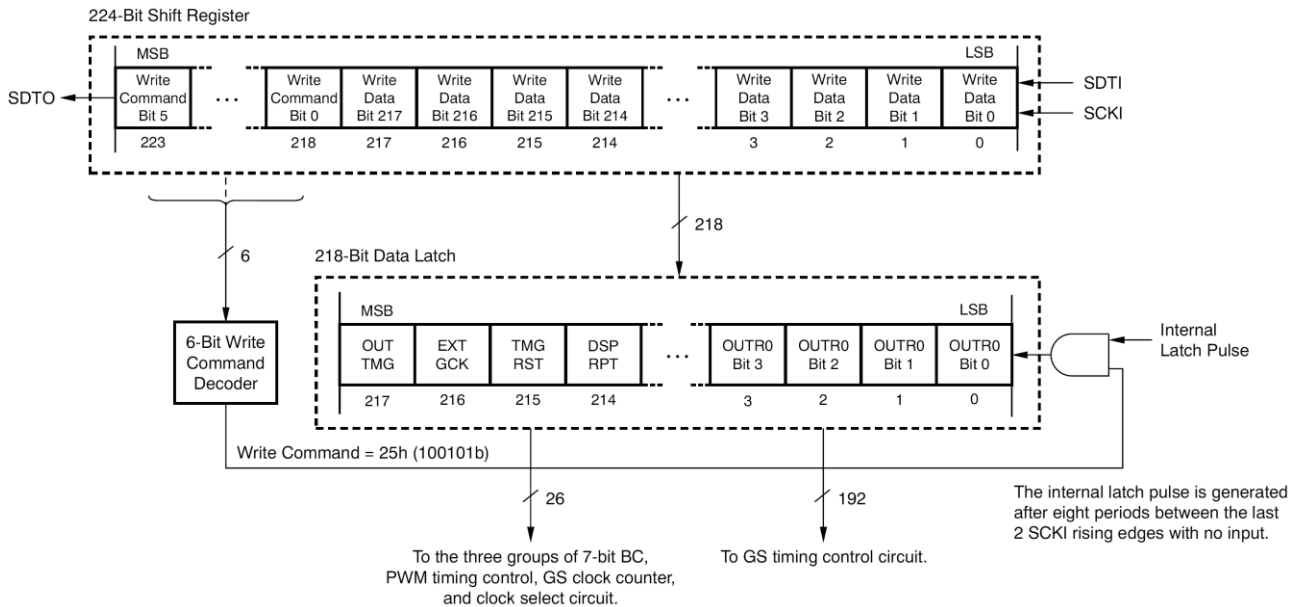

Figure 24. Common Shift Register and Control Data Latch Configuration
The G5031 has a 224bit shift register and a 218 bit data latch that set grayscale (GS) data, global brightness control (BC), and function control (FC) data into the device. When the internal latch pulse is generated and the data of the six MSBs in the shift register are 25h, the 218 following data bits in the shift register are copied into the 218 bit data latch. If the data of the six MSBs is not 25h, the 218 data bits are not copied into the 218 bit data latch. The data in the data latch are used for GS, BC, and FC functions. Figure 24 shows the shift register and the data latch configuration.